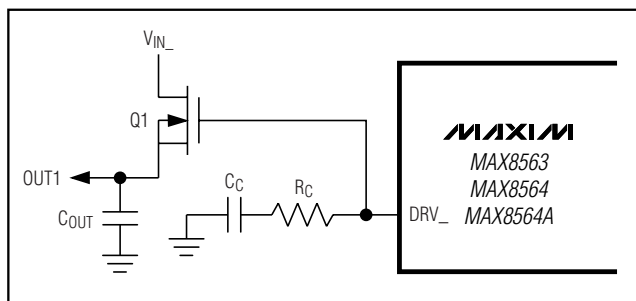

Figure 3. Soft-Start and Compensation Schematic
When an LDO is activated, the respective DRV- is pulled up from GND with a typical soft-start current of DRV soft-start. The soft-start current limits the slew of the output voltage and limits the initial spike of current that the drain of the external n-MOSFET receives. The size of the compensation capacitor (CC) limits the slew rate (see Figure 3). This output voltage slew rate is equal to (DRV-soft-start / CC)mV/ms, where CC is in μF. The maximum startup drain current is the ratio of COUT to CC multiplied by the soft-start current.